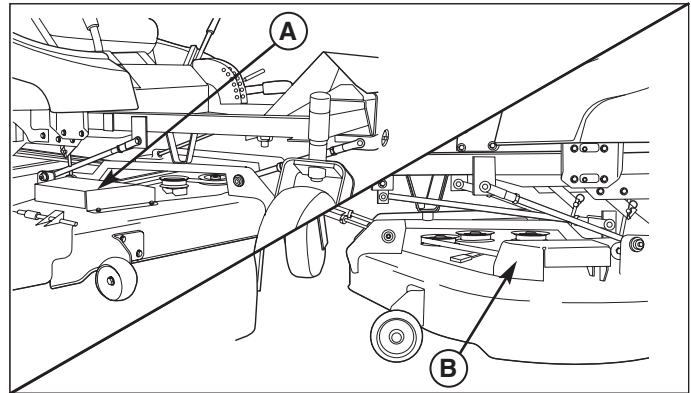

Figure 34. Belt Covers
2. Remove the capscrews securing the left and right belt covers (A, B Figure 34) and remove the covers.